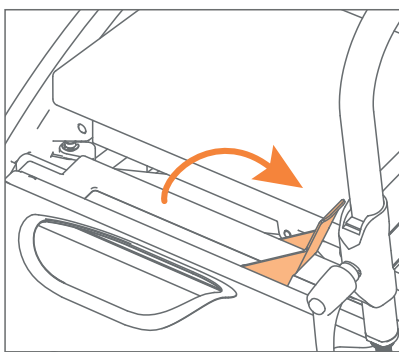

Figure 49: Unlocking the transport chair package.
- a. Pull up the red handle without force. This way the locking bolts are tied in, and the transport chair package unlocked **(Figure 49)**.